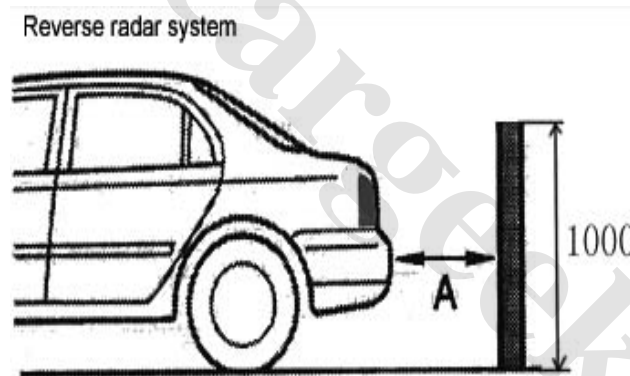

Fig. 4-110
2. Radar detection range: see Fig. 4-110.